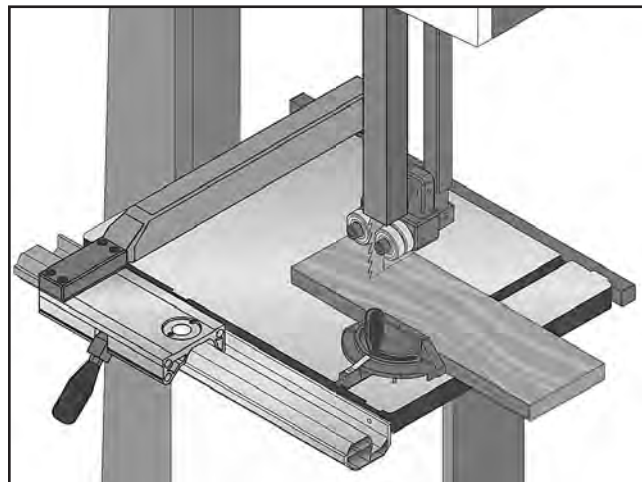

Figure 43. Example of crosscutting operation with miter gauge.
5. After all safety precautions have been met, turn bandsaw **ON**. Slowly feed workpiece into blade and continue cut until blade is all the way through workpiece. **Figure 43** shows a typical crosscutting operation.